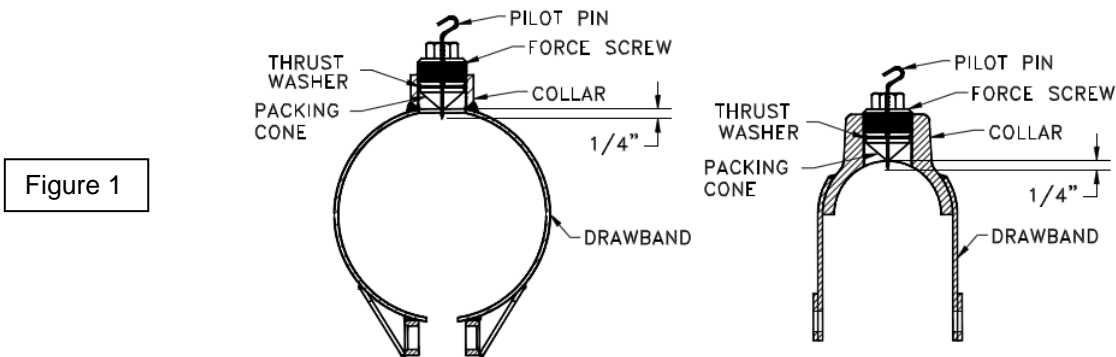

Figure 1
1. Remove the pilot pin point protector and adjust the pilot pin so that it protrudes 1/16 inch to 1/8 inch (1.6 mm to 3.2 mm) beyond the packing cone. Adjust the force screw until the tip of the packing cone is flush with the inside surface of the PLIDCO Smith+Clamp as shown in Figure 1.